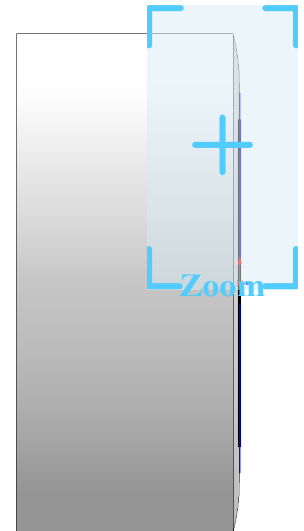

Fig. 22
- Step 2. Zoom in around **top letters**, Fig. 22.